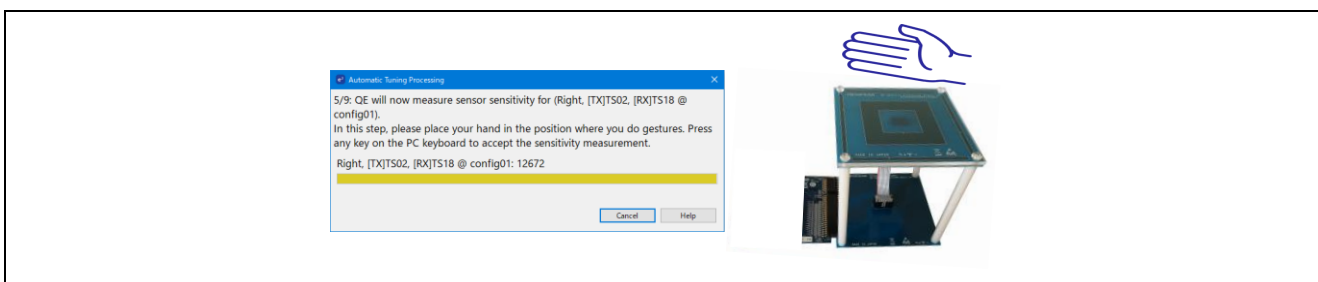

Figure 4-14 During Sensitivity Adjustment
- When the message in Figure 4-14 is displayed, hold your hand over the specified sensor and click the key.